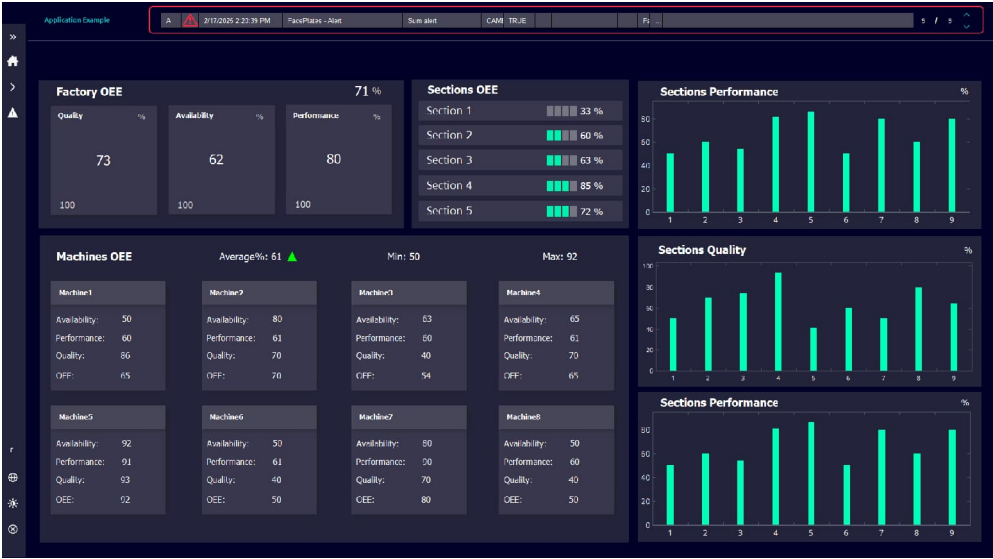

Figure 2-15 Starting screen of the template
- All values in the previous Dashboard panel in Figure 2-15 are static (not changing), as there
- The name of the project appearing in the header of Figure 2-15 (which is in our case “Application Example”) can be set up by changing the “projectTitle” keyword value in the project.cat file under the path “Message Catalogs/project.cat” in the framework project.